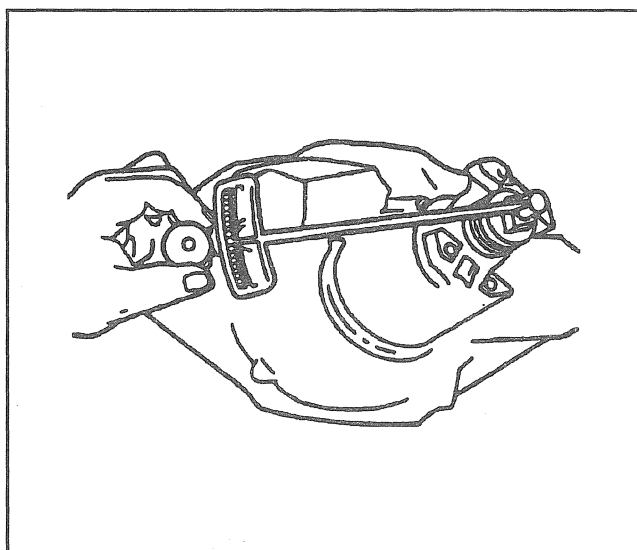

Figure 18—Checking Pinion Bearing Preload
- Remove J 8614-01. Using an inch-pound torque wrench, check the pinion preload by rotating the pinion with the wrench. Preload should be at or below 1.7 to 3.4 N·m (15 to 30 lb. in.) on new bearings, or 1.1 to 1.7 N·m (10 to 15 lb. in.) for used bearings (Figure 18).